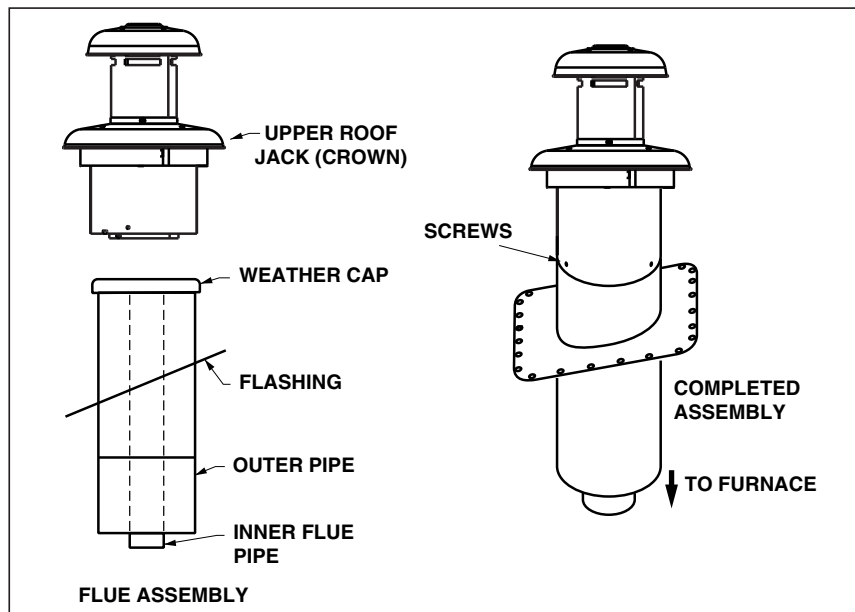

Figure 24.
- Transit-mode weather cap to be removed and upper Roof Jack crown installed (See Figure 24).
- Place upper Roof Jack (crown) on to the flue pipe assembly. Be sure inside flue pipe attaches over inner flue pipe. Be sure outer Roof Jack pipe fits over outer pipe. Secure in place using three (3), #10, 1/2" sheet metal screws removed in step #a. Do not use the same holes which secured the rain cap in place.